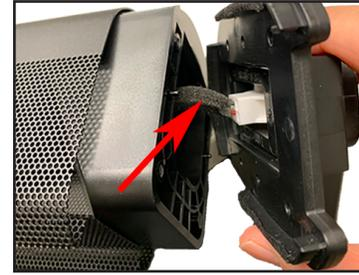

Figure 26. Lower Endcap Removal
1.2 Lift off the Top and Lower endcap. Figure 26.